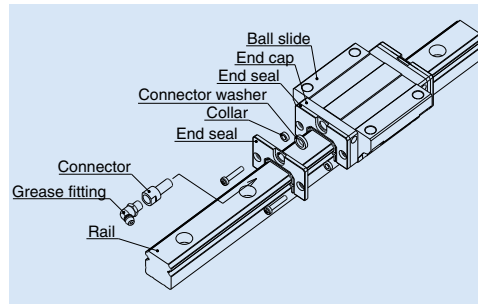

Fig. 7.2 Double seal
(1) Double seal
- Double-seal set: Can be installed to a completed standard ball slide assembly later upon request. It comprises two end seals, two collars, and two machine screws for installation (**Fig. 7.2**). The product reference numbers of each series are described on the section of dust-proof parts.
- When attaching a grease fitting to the end cap after the double seal is equipped, you require a connector shown in **Fig. 7.2**. Please specify the connector set when ordering the linear guides.